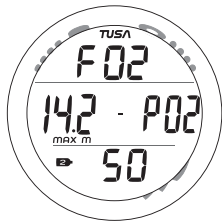

Fig. 34 - SET FO2 GAS 2
**Set FO2 Gas 2**, information includes (Fig. 34):